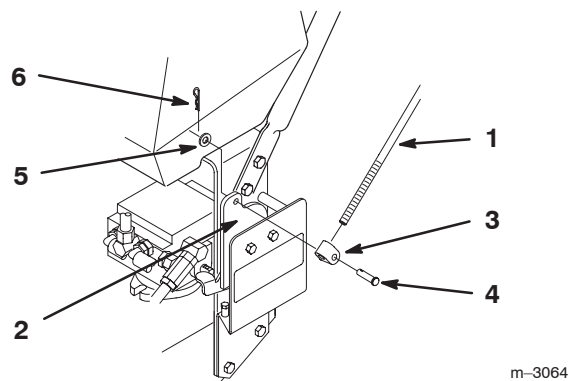

Figure 4
1. Slide clevis pin through rod fitting and mounting hole in control bracket (from outside). Secure with washer and hairpin cotter (Fig. 4).
4. Push rod full forward until bearing is against control bracket stop. Thread rod in or out of fitting on control bracket until rod aligns with holes in upper control bars (Fig. 4).
4. Push rod full forward until bearing is against control bracket stop. Loosen wing nut and thread turnbuckle in or out until rod aligns with holes in upper control bars (Fig. 4).